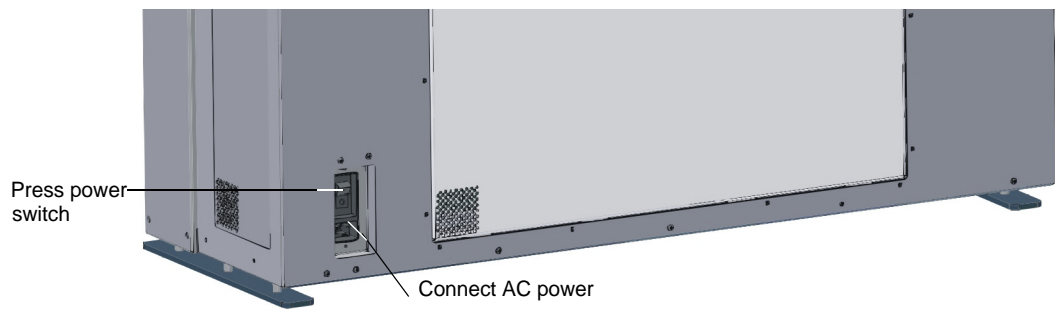

Figure 2-4 Connect AC Power and Turn On Monitor
4. Connect the PRM-4200 power cable to an AC power source, then press the power switch to turn on the monitor, as shown in Figure 2-4.